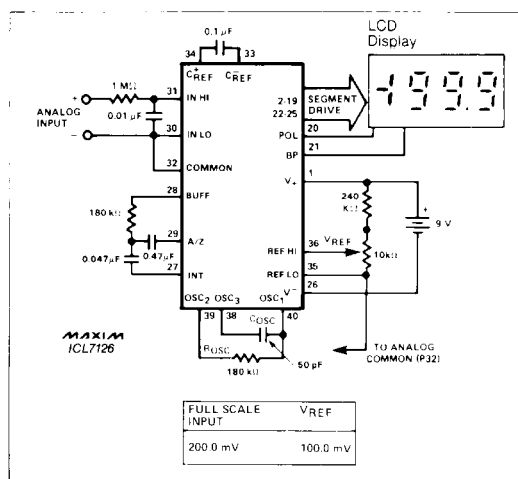

Figure 2. Maxim ICL7126 Typical Operating Circuit
**Note 6:** 48kHz oscillator, Figure 2, increases current by 20 $\mu\text{A}$  (typ).